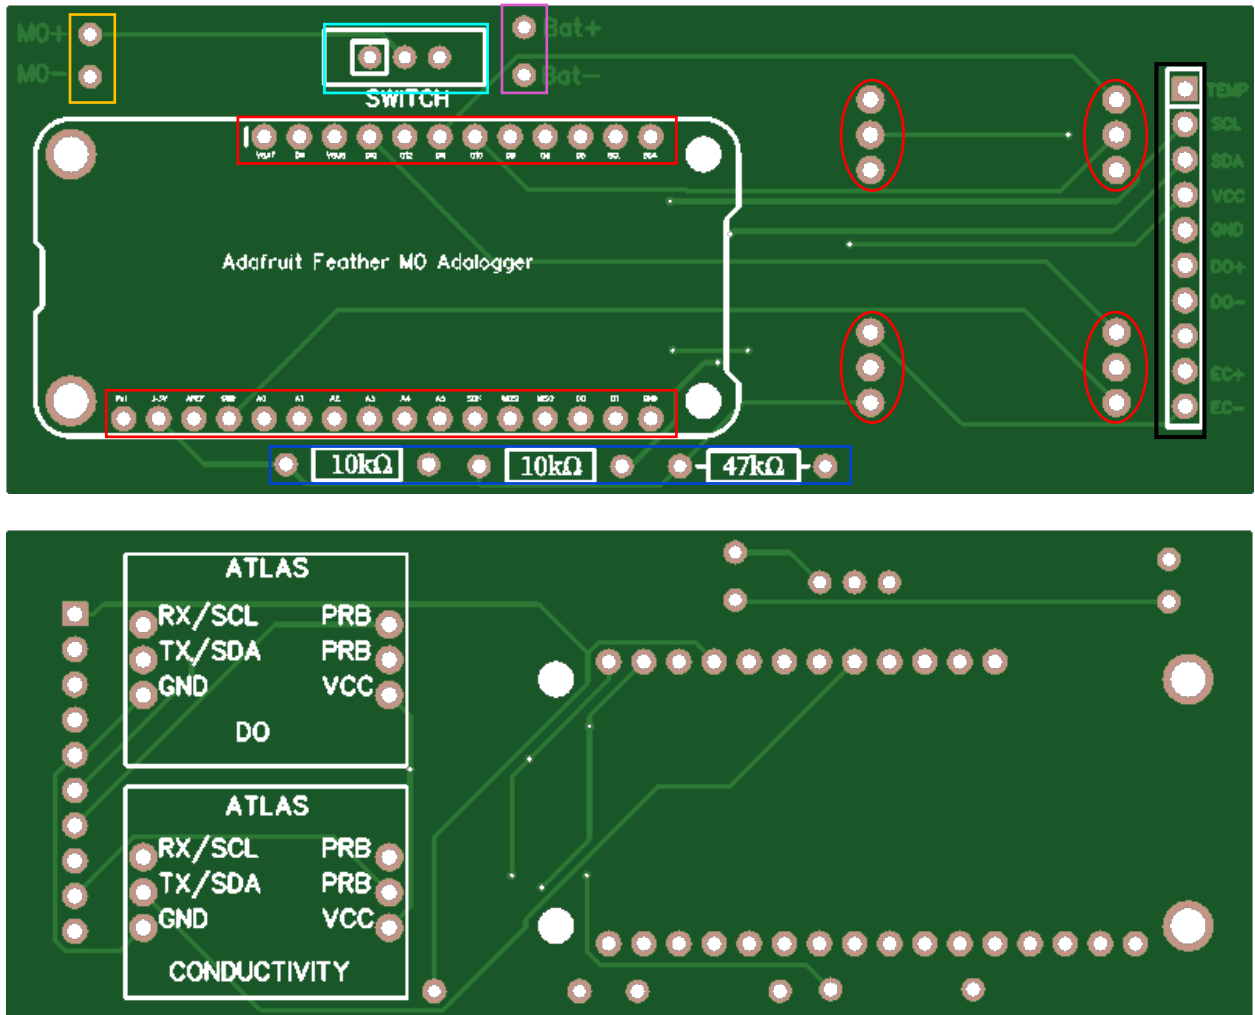

Figure 8. ctdTurbO2 circuit board. The top image will be called Side A, and the bottom image will be called Side B.
Step 1. Cut female header pins to segments of the following lengths: 1x 12 pins, 1x 16 pins, 4x 3 pins. Solder the 12 pin and 16 pin headers in the holes marked with red rectangles in Figure 8 such that the sockets are on Side A. Solder the 4 pin headers in the holes marked with red ovals in Figure 8 on Side B.
Step 2. Solder 10 k $\Omega$  and 47 k $\Omega$  resistors in their labeled spots marked in blue in Figure 8 such that the legs are exposed on Side B. Cut off the excess material.
Step 4. After checking the polarity of the JST connector, install the male plug by soldering the red wire to M0+ and the black wire to M0- on side A (marked in orange in Figure 8). Solder the red wire of the female plug to Bat+ and the black wire to Bat- on side A (marked in magenta in Figure 8).
Step 5. Install the slide switch on Side A in the location marked in blue in Figure 8.
Step 13. Solder wires into their appropriately labeled holes on the board marked in black in Figure 8.